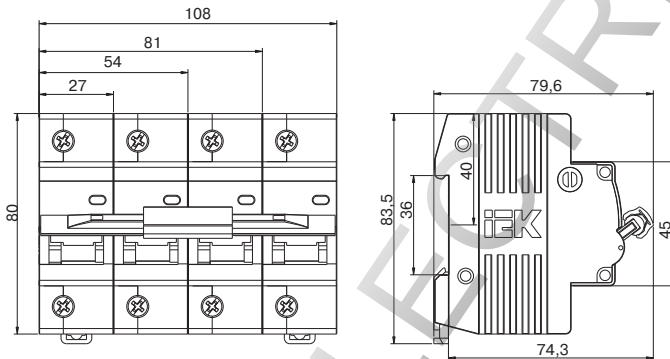

Fig. 5
3.4 Overall and installation dimensions are shown in Figure 5.